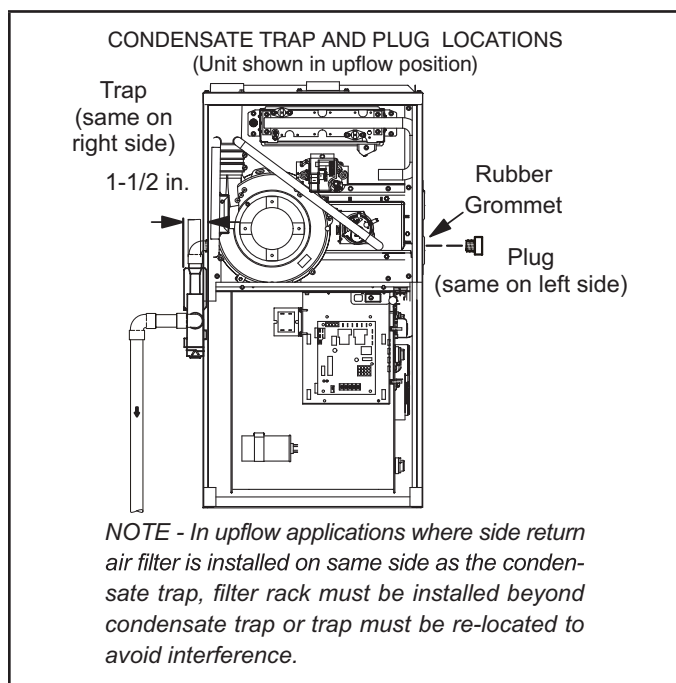
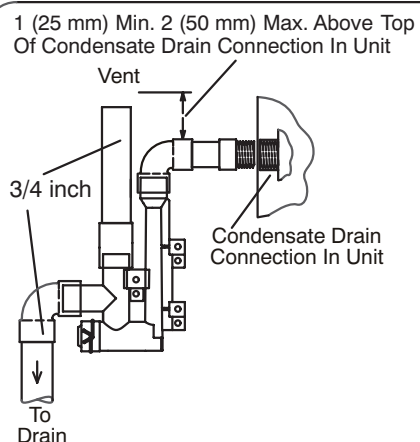

FIGURE 42
FIGURE 50
This unit is designed for either right- or left-side exit of condensate piping in upflow applications. In horizontal applications, the condensate trap must extend below the unit. An 8" service clearance is required for the condensate trap. Refer to FIGURE 42 for condensate trap locations. FIGURE 50 shows trap assembly
- 2 - Use a large flat head screw driver or a 1/2" drive socket extension and remove plug (FIGURE 42) from the cold end header box at the appropriate location on the side of the unit. Install provided 3/4 NPT street elbow fitting into cold end header box. Use Teflon tape or appropriate pipe dope.
- 3 - Install the cap over the clean out opening at the base of the trap. Secure with clamp. See FIGURE 50.
- 4 - Install drain trap using appropriate PVC fittings, glue all joints. Glue the provided drain trap as shown in FIGURE 50. Route the condensate line to an open drain. Condensate line must maintain a 1/4" downward slope from the furnace to the drain.